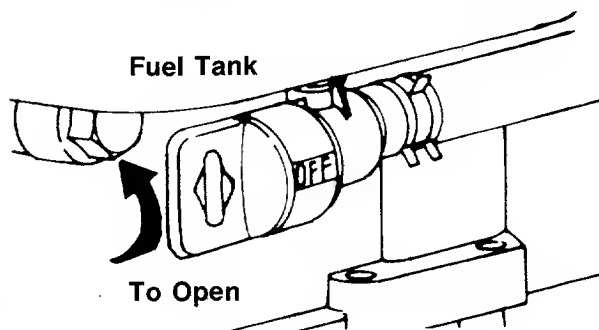

FIGURE 17.
2. **Deluxe Briggs and Stratton engines:** Open fuel shut-off valve. See figure 17.